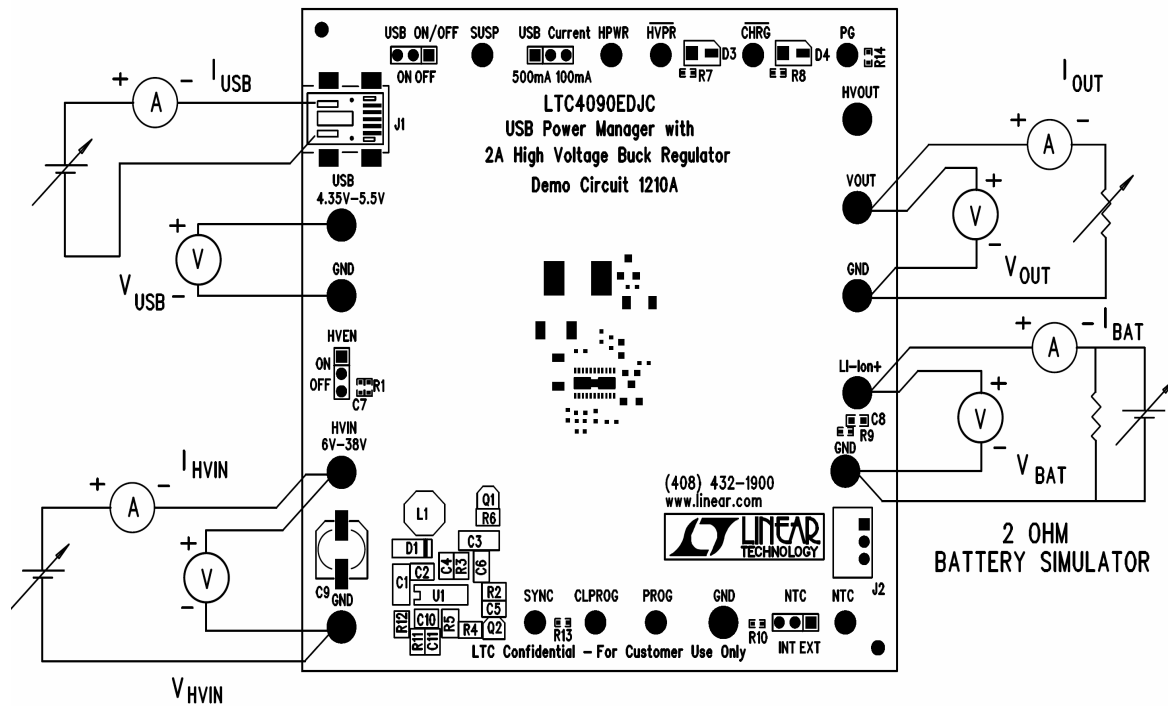

Figure 1. Proper Measurement Equipment Setup
Refer to Figure 1 for proper measurement equipment setup and follow the procedure below:
1. With power off, connect the input power supplies, meters and output load as shown in Figure 1. For the USB input, use an adjustable 0-5V 0.5A power supply and a cable with a USB Mini-B connector that plugs into J1. For the HVIN input, use a 0-50V 3A adjustable power supply. For simulating the battery, use a 0-5V adjustable power supply that can deliver at least 3A, in parallel with a 2Ω 10W power resistor. Attach a 0-2A adjustable load to the System Output.